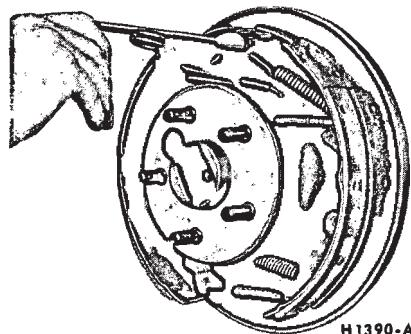

FIG. 7—Retracting Spring Removal
1. With the wheel and drum removed install a clamp over the ends of the brake cylinder as shown in Fig. 7.
2. Remove the secondary shoe to anchor spring with the tool shown in Fig. 7. With the same tool remove the primary shoe to anchor spring and unhook the cable eye from the anchor pin.